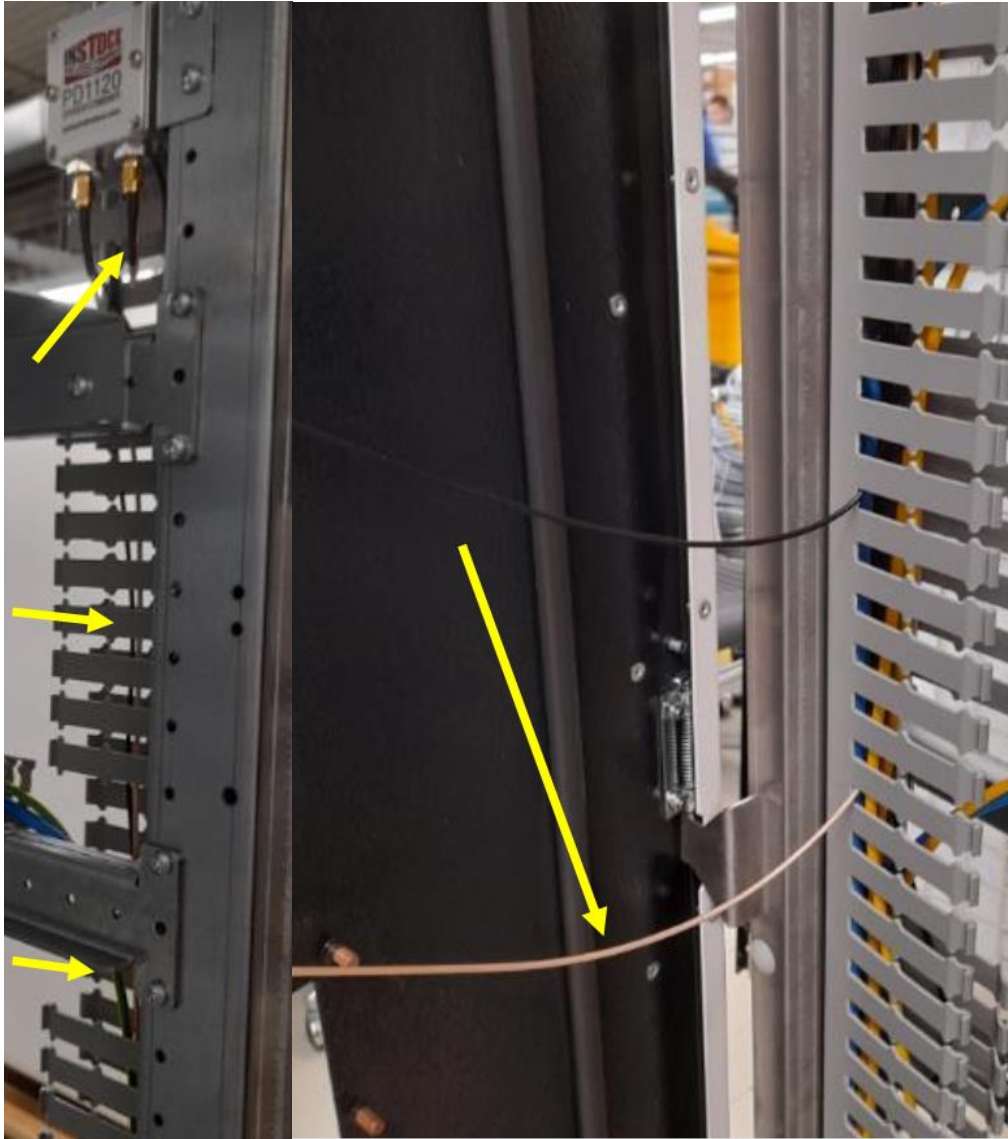

Figure 9 New routing of antenna cable to Payter terminal (left to right)
Step 8 Route it in the system according to Figure 9.